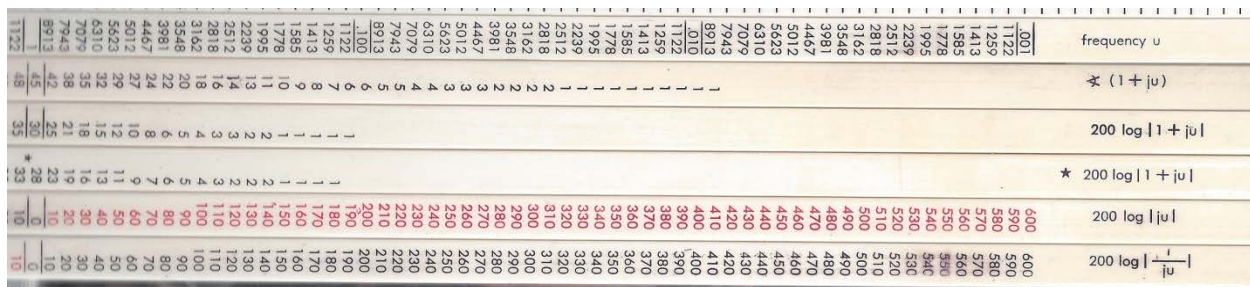

FIGURE 5. First Order ($j\omega$) Transfer Function ω/ω_0 (slide rule u/u_0) Slides
For low frequencies, where $\omega \ll \omega_0$, the gain is $10\text{Log}(1^2) = 0_{\text{dB}}$ with a phase angle $\theta = \tan^{-1}(0) = 0^\circ$. At high frequencies, where $\omega > \omega_0$, the gain increases to $\text{Gain}_{\text{dB}} = 10 \text{Log}[(\omega/\omega_0)^2]$, and the phase angle $\theta = \tan^{-1}(\omega/\omega_0) = +90^\circ$. What about when $\omega = \omega_0$? In that case, $\text{Gain}_{\text{dB}} = 10 \text{Log}[1 + (1)^2] = 10\text{Log}(2) = +3.01\text{dB}$ with a phase angle $\theta = \tan^{-1}(1) = +45^\circ$, so that $H(j\omega) = +3_{\text{dB}} \angle +45^\circ$. The $+3_{\text{dB}}$ break frequency ω_0 is an important concept as we will see. Bode plotted the Gain_{dB} and the phase angle versus frequency on a log scale. As shown in Figure 5 the Boonshaft and Fuchs has numerous individual transfer function slides to help in the plotting of the Bode plot.